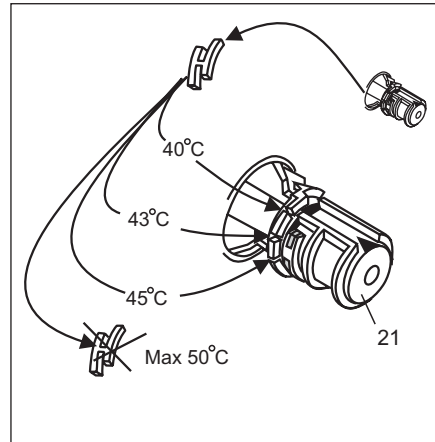

Figure 13
The maximum mixed water temperature is factory set at 40°C. To change this temperature remove the temperature control handle (13). Remove the temperature limit stop (black H-shaped plastic part) and reinsert it in the appropriate recess on the handle carrier. Four different settings are possible. 40°C, 43°C, 45°C & 50 °C (See fig 13) Refit temperature handle (13). Refit temperature handle.